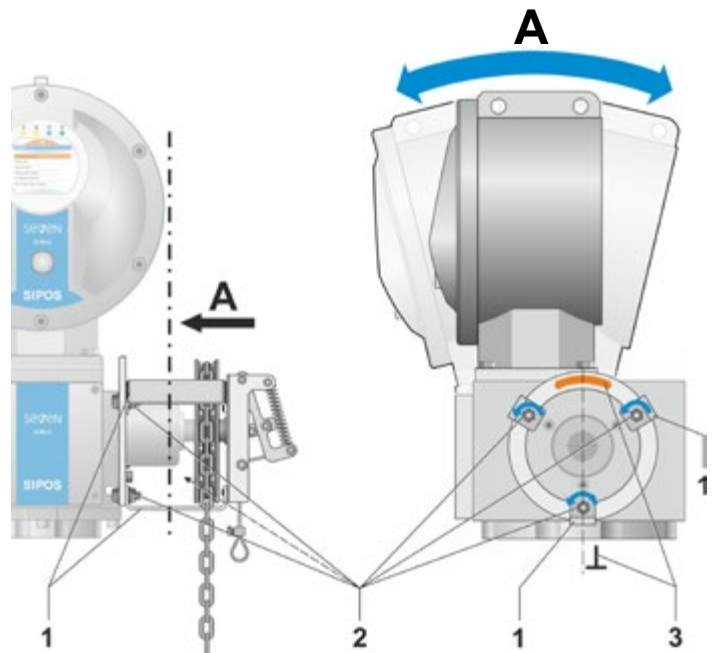

Fig. 1: Align chain wheel drive vertically
1. Only loosen the 3 nuts (Fig. 1, Item 2) at the stays of the chain wheel drive (1).
2. Align the chain wheel drive vertically (3): Turn the chain wheel drive until the chain can run freely without grinding at a stay.
3. Tighten the three nuts (2) (tightening torque 4 Nm).